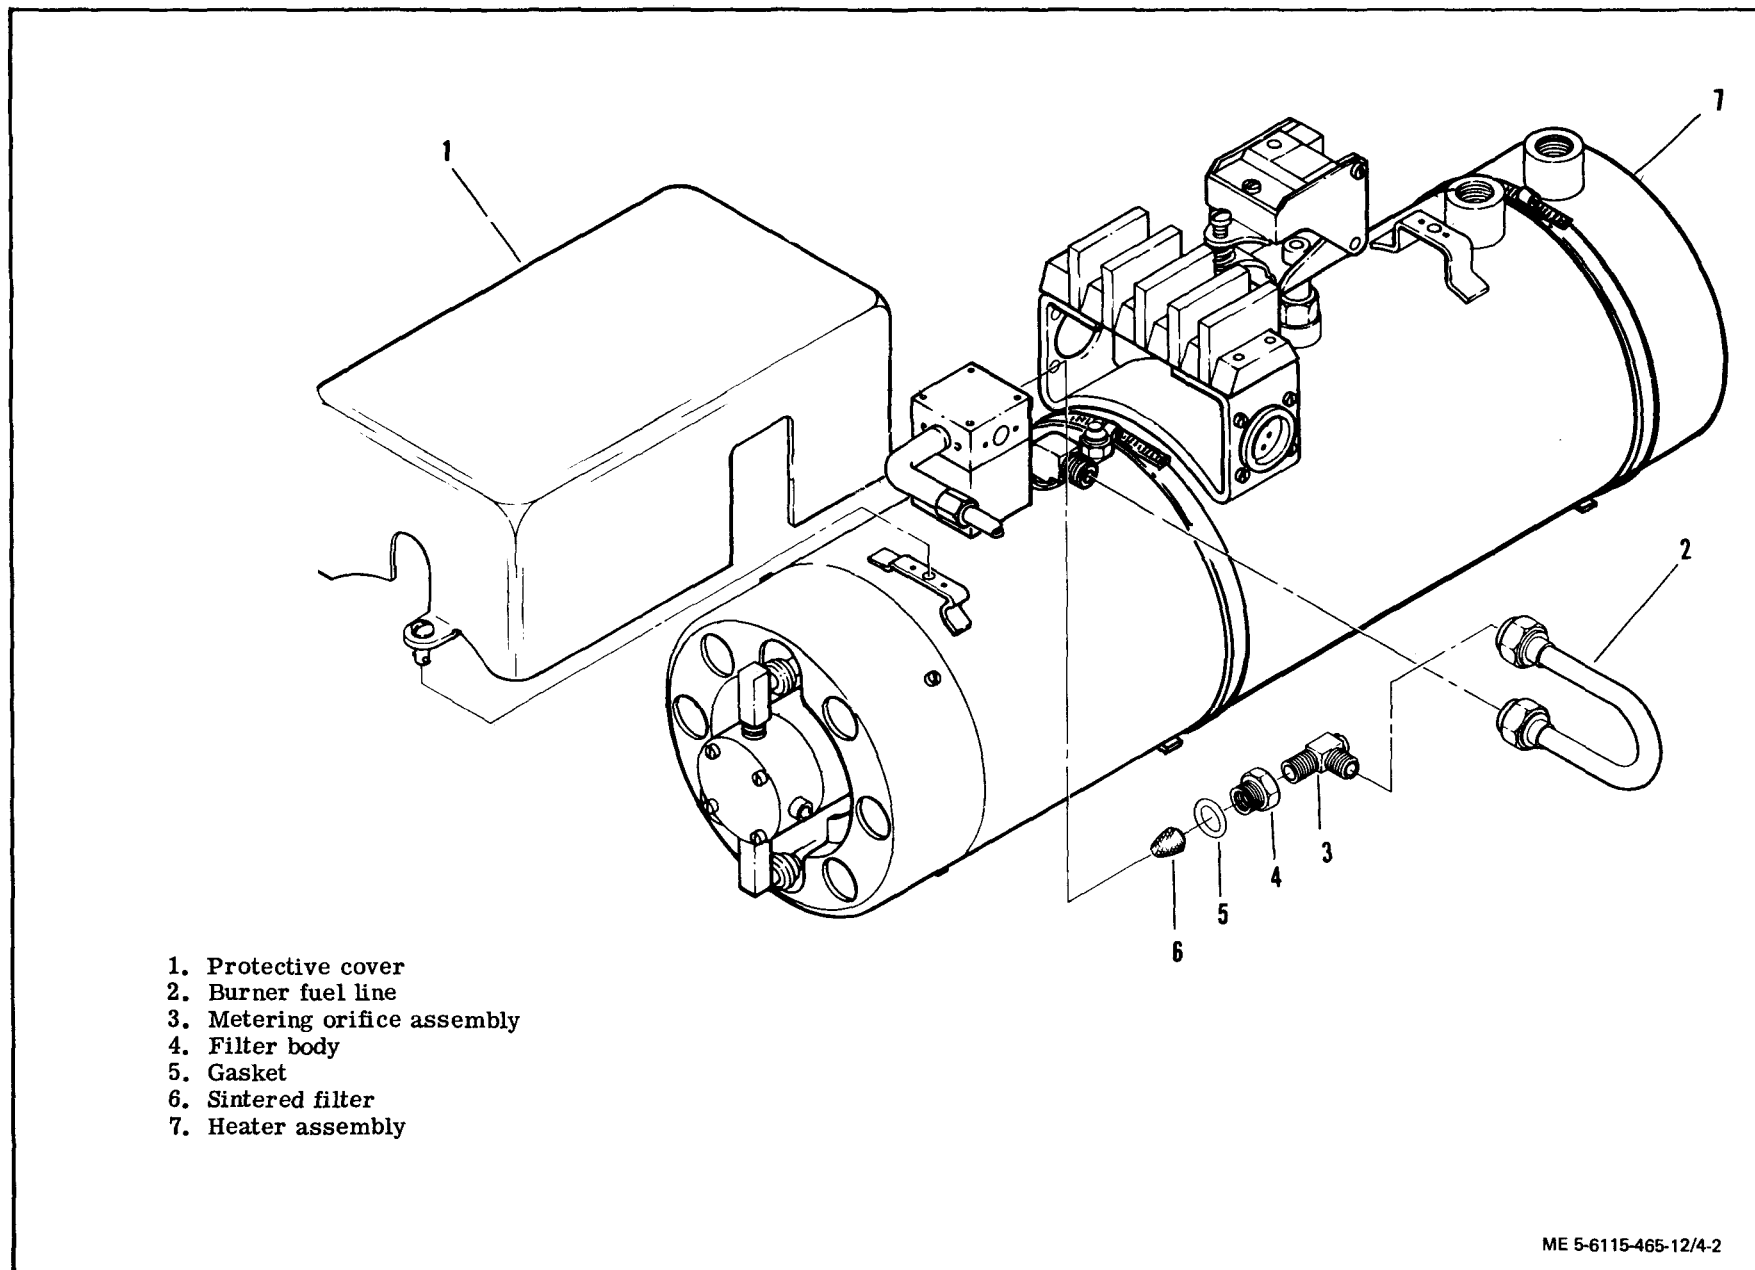

Figure 4-2. Fuel Burning Winterization Kit Heater Assembly, Inspection and Service
(1) Loosen fasteners and remove protective cover (1, figure 4-2).
(2) Disconnect burner fuel line (2) and remove metering orifice assembly (3).
(3) Remove filter body (4) with gasket (5) and sintered filter (6) from heater assembly (7).
(4) Unscrew sintered filter (6) from filter body (4). Discard gasket (5).
(5) Clean metering orifice assembly, screen, and sintered filter in an approved solvent and dry with filtered compressed air.
(6) Hold orifice up to a light and check to make sure its pin hole is unobstructed.
(7) Screw sintered filter (6) into filter body (4) and install with new gasket (5) into heater assembly.